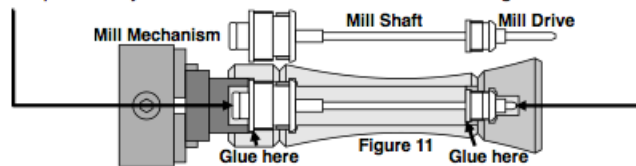

Figure 11
21. Drill 1" diameter hole, 5/32" deep in tenon at base of Mill Head for Mill Drive (See Figure 11 for Drive).
22. Using point of skew, fit hole to receive Mill Drive, see Fig 11.
39. See Figure 11. Assemble Mill hardware as shown. Advise gluing mechanisms in place, ONLY around edge of each mechanism. Avoid excess glue to prevent gluing mechanism to itself.